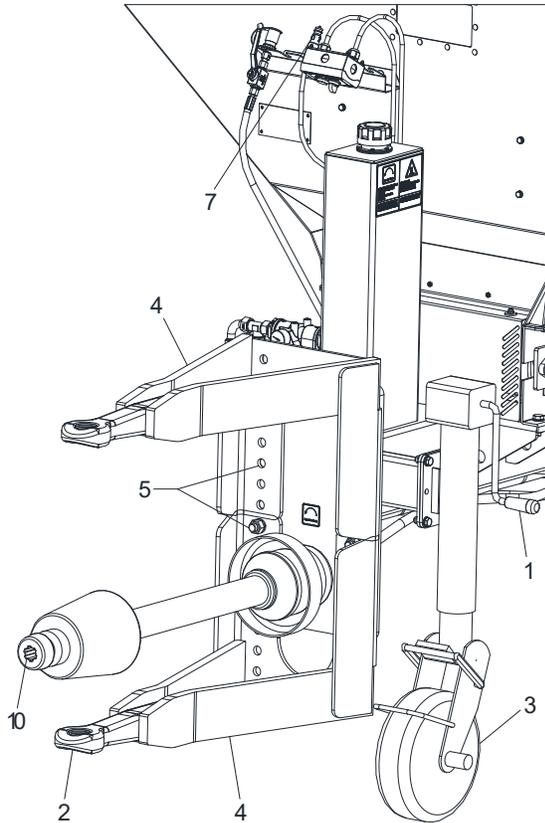

Fig. 29 Connection DS3800
2. If the trailer coupling and the towing eye (Fig. 29/2) are not at the same height, the height of the hitch can be adjusted using the screw connections (Fig. 29/4) and the offset holes (Fig. 29/5).
4. Connect the towing eye (Fig. 29/2) to the towing vehicle's trailer coupling, see the towing vehicle's operating instructions.
Attach the PTO (Fig. 29/10) to the towing vehicle and secure it against twisting.
6. Place the support wheel Fig. 29/3) in the uppermost position. To do this, turn the support wheel axle completely upwards using the crank (Fig. 29/1).